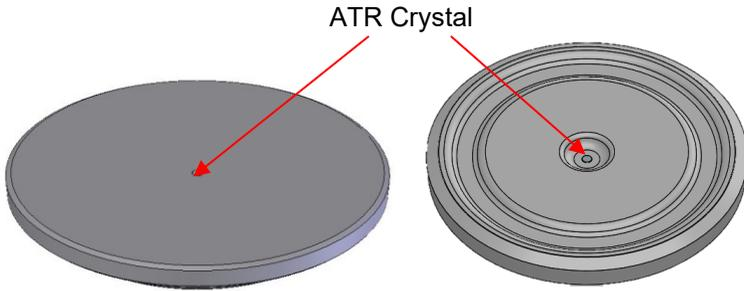
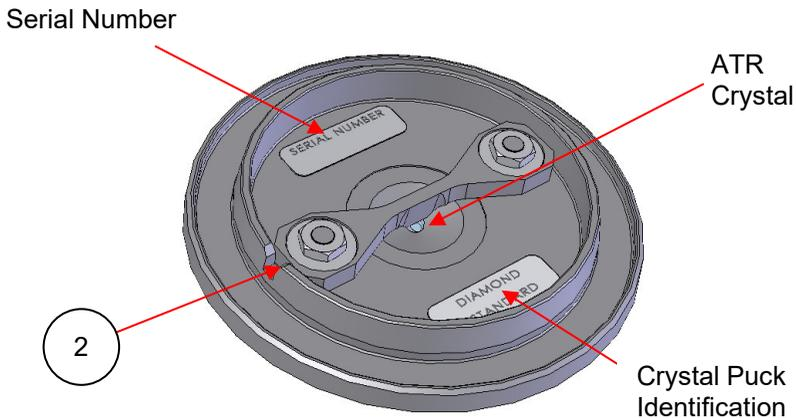
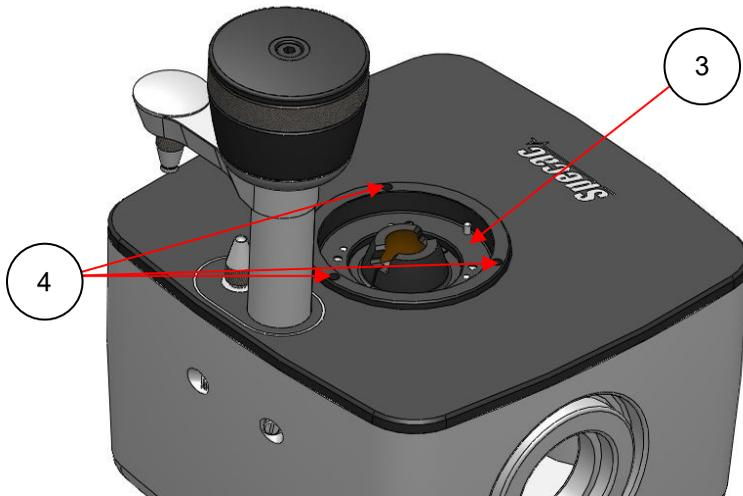

Figure 5-2: Top view of Quest ATR Diamond Crystal puck: Standard (left) and Liquids (right) Puck Assembly
Figure 5-3: Underside view of Quest ATR Diamond Crystal Puck Assembly
Figure 5-4: Top view of Quest ATR Optical Unit showing location area for the Puck Assemblies
- 2) Location slot of ATR puck assemblies (Figure 5-3).
- 3) Location pin on top surface of the optical unit (Figure 5-4).
- 4) Magnetic catch for ATR puck assemblies (Figure 5-4).
Top and underside views of the Quest ATR Flat and Liquid puck assemblies are shown in Figure 5-2 and Figure 5-3.
Install the puck assembly onto the Quest by lining up the alignment notch (2) in the puck with the locating pin (3) on the Quest top plate (see Figure 5-3 and Figure 5-4). Three magnets (4) capture and hold the puck in place when it is correctly positioned on the Quest ATR optical unit. Some puck assemblies (e.g. heated puck) may need to be firmly pushed into position.
The Synopti-Focal mirror arrangement is shown in figure 5-2. For a right-to-left beam direction, the beam strikes the mirrors in the following sequence from source-side (S) to detector-side (D):